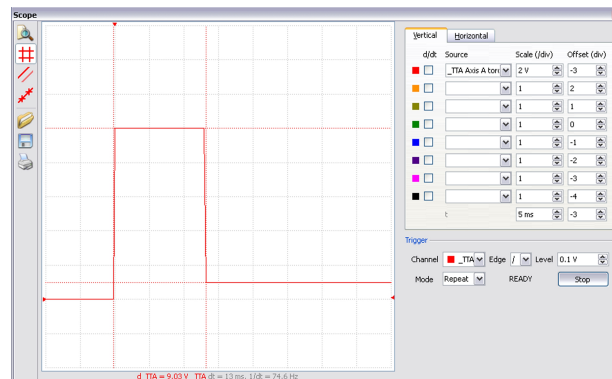

Figure A1.2: Peak Current Operation
The gain is set with the AG command as shown in Table A1.1 for AG n=m. Select the amplifier gain that is appropriate for the motor. The gain settings for the amplifier are identical for the brush and brushless operation. The amplifier gain command (AG) can be set to 0, 1, or 2 corresponding to 0.4, 0.7, and 1.0 A/V. In addition to the gain, peak and continuous torque limits can be set through TK and TL respectively. The TK and TL values are entered in volts on an axis by axis basis. The peak limit will set the maximum voltage that will be output from the controller to the amplifier. The continuous current will set what the maximum average current is over a one second interval. Figure A1.2 is indicative of the operation of the continuous and peak operation. In this figure, the continuous limit was configured for 2 volts, and the peak limit was configured for 10 volts.